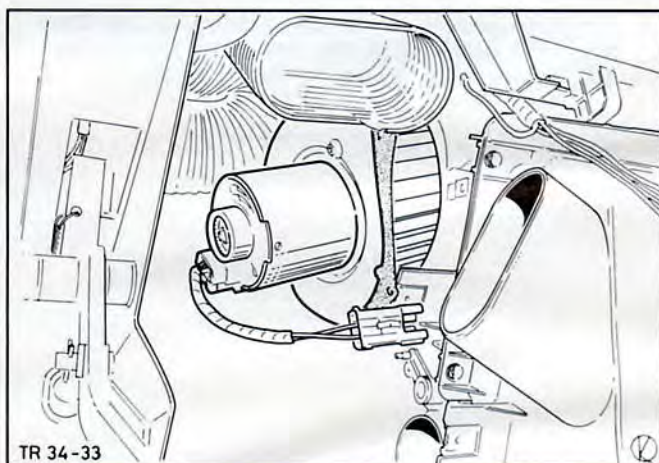

Fig.29. Draw heater blower motor out of the heater casing.
4. Undo the three retaining screws and withdraw the blower motor from the heater casing sideways, Figs. 29 and 30.